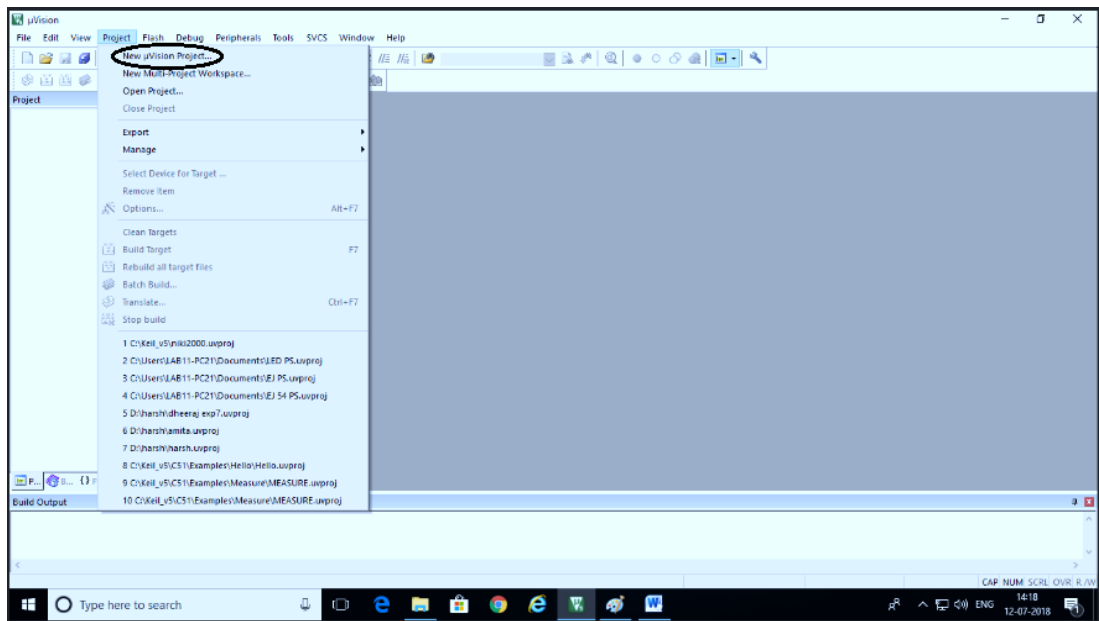

Figure 4.2: Creating new project Window
2. To create new project, Click on Project and select new project. (refer Figure 4.2)